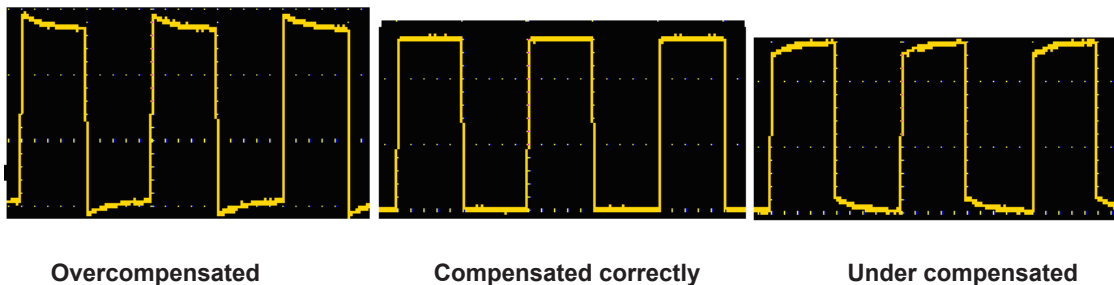

Figure 3 5 Displayed Waveforms of the Probe Compensation
2. Check the displayed waveforms and regulate the probe till a correct compensation is achieved (see Figure 3 5 and Figure 3 6).